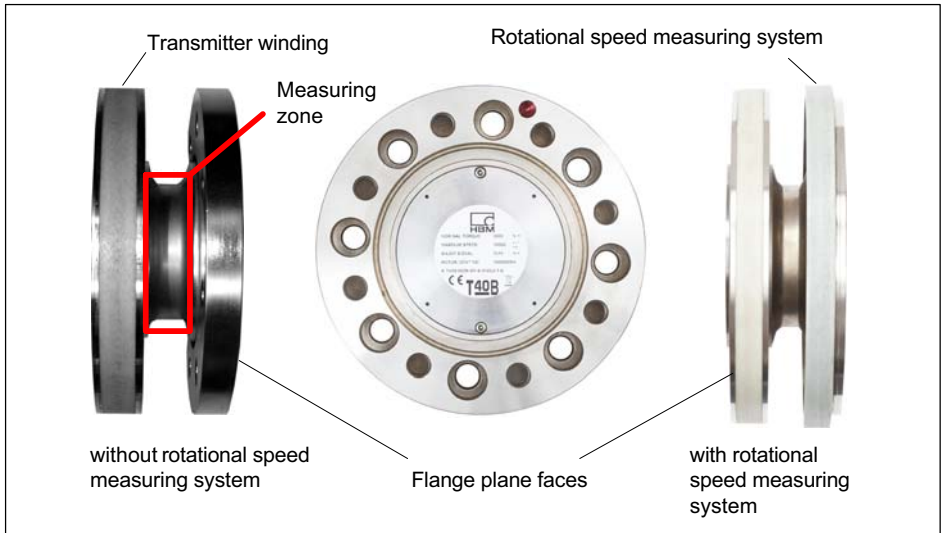

Fig. 5.1 Bolted rotor connection
*Make sure during installation that you do not damage the measuring zone marked in Fig. 5.1 by using it to support tools, or knocking tools against it when tightening screws, for example. This can damage the transducer and produce measurement errors, or even destroy the transducer.*
2. For the bolted rotor connection (see Fig. 5.1), use six or eight DIN EN ISO 4762 hexagon socket screws of the property class stated in Tab. 5.1, in a suitable length (dependent on the connection geometry, see Tab. 5.1 on page 29).